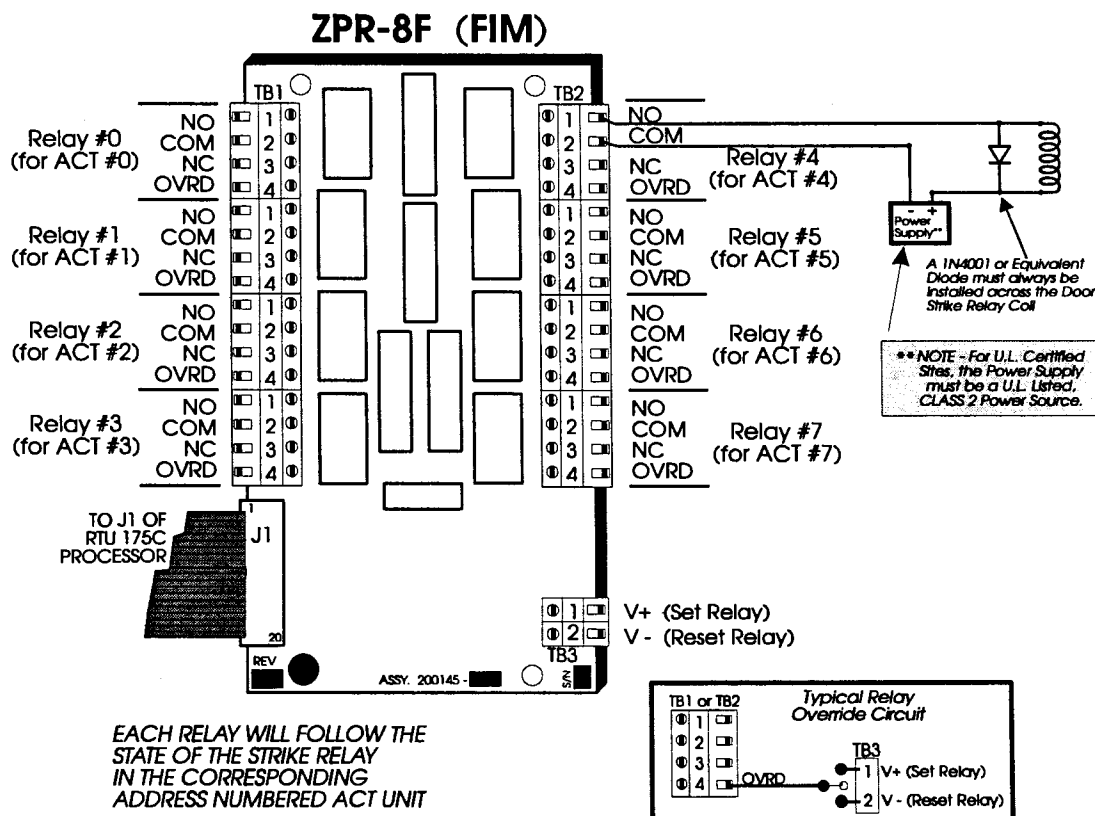

Figure 3-51. ZPR-FIM, ZERO POWER RELAY
When using the MDI ACT type readers, such as the ACT-4 or ACT-E interface, the door strike/lock is wired to, and controlled by the ACT unit. However, in some installations, requirements exist for the door lock to be controlled at a location other than locally at the door. In these cases, a special Zero Power Relay (ZPR) for FIM applications can be added to the RTU to specifically control the door strikes/locks from the RTU instead of locally by the ACT unit. The relay module, referred to as the ZPR-8F or ZPR-FIM (Figure 3-51), provides eight (8) DPDT latching type relays, one for each of the possible eight card readers connected to the FIM. Relay contacts are rated for a maximum current of 2.0 Amps @ 24 Vdc or 0.5 Vac at 24 Vac.
The ZPR-FIM relay board also provides the connections for an override circuit on each individual relay which can lock the relay in the activated or deactivated state. An example of the override circuit wiring is shown in Figure 3-51. When in an override condition, the relay will ignore any other commands sent to it.